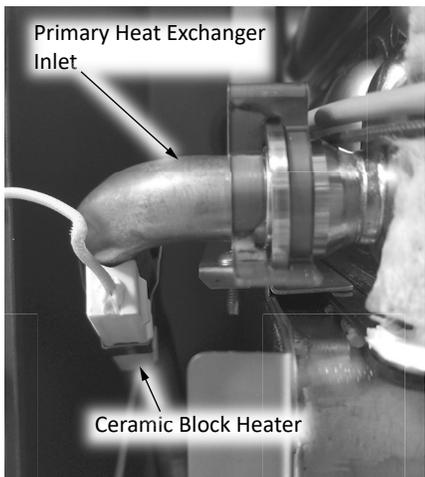

Figure 65: Ceramic block heater on Primary Heat Exchanger Inlet Pipe.
- 21 Disconnect the ceramic block heater from the Primary Heat Exchanger inlet pipe (# 467). Move the block heater and wires aside to prevent it catching on the heat exchanger assembly when it is being removed. See Figure 65.
40 Reconnect the ceramic block heater from the Primary Heat Exchanger inlet pipe. See Figure 65 on page 57.